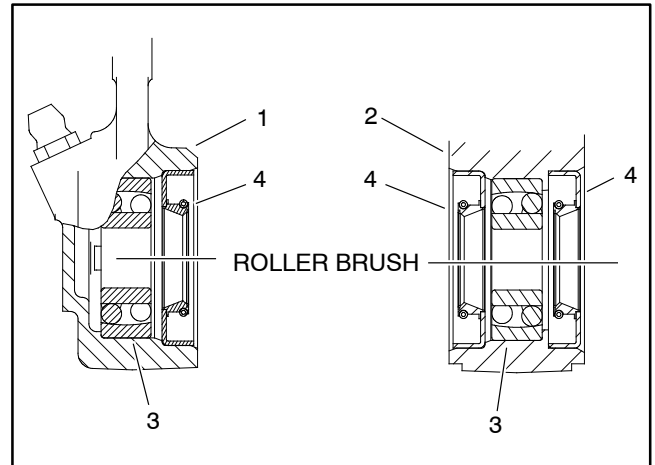

Figure 56
C. Install grease seals as shown (Fig 56). Press seals into housing so that seals contact bore shoulders.